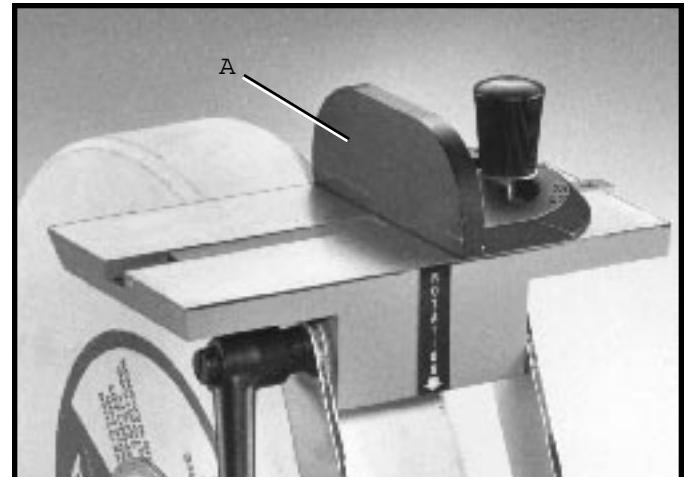

Fig. 10
A sliding angle jig (A) Fig. 10, is supplied for use on the tool rest for the 10" grinding wheel to facilitate accurate grinding of compound angles up to 45°, right or left.